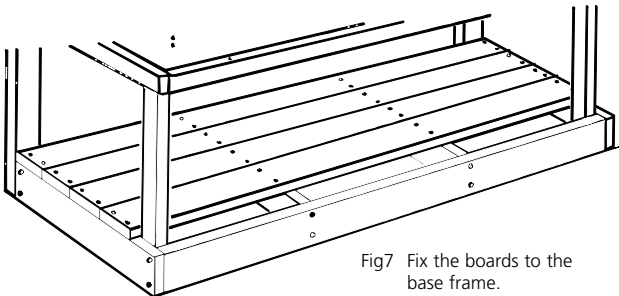

Fig7 Fix the boards to the base frame.
- Starting with the base, mark out and cut four 2100mm lengths of 140x45mm treated pine and screw fix to the base frame members starting from the rear and ensuring the boards butt firmly against each other (see fig 7).